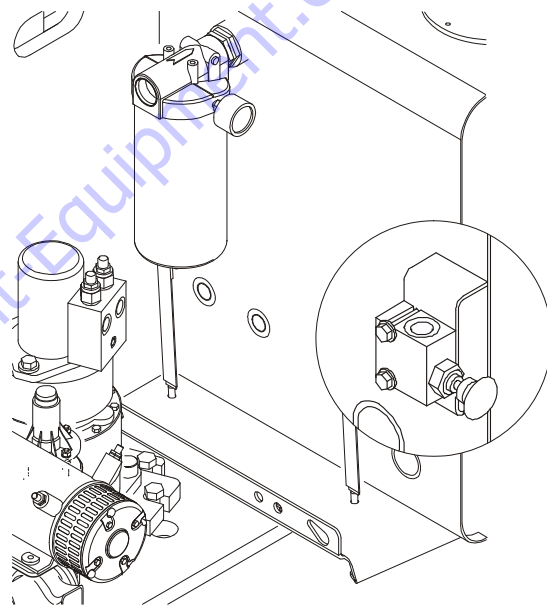

Figure 4-7. Re-leveling Valve
3. Pull and hold the red re-level knob located next to the main control valve. Refer to Figure 4-7.